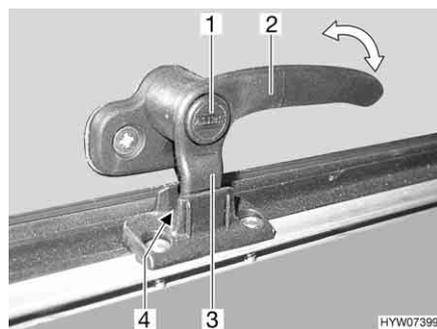
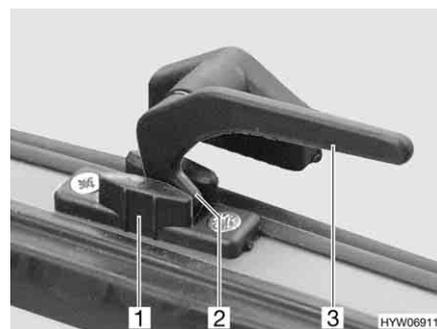

Fig. 105 Catch lever with safety knob in "continuous ventilation" position
Fig. 106 Catch lever in "continuous ventilation" position
- "Continuous ventilation" (Fig. 105 and Fig. 106)
- Press and hold the security button (Fig. 105,1), if present.
- Turn the catch lever (Fig. 105,2 or Fig. 106,3) a quarter turn towards the centre of the window.
- Return the catch lever to its initial position. Move the locking catch (Fig. 105,3 or Fig. 106,2) on the catch lever into the recess of the window catch (Fig. 105,4 or Fig. 106,1).